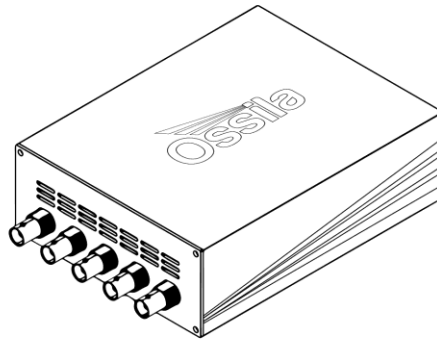
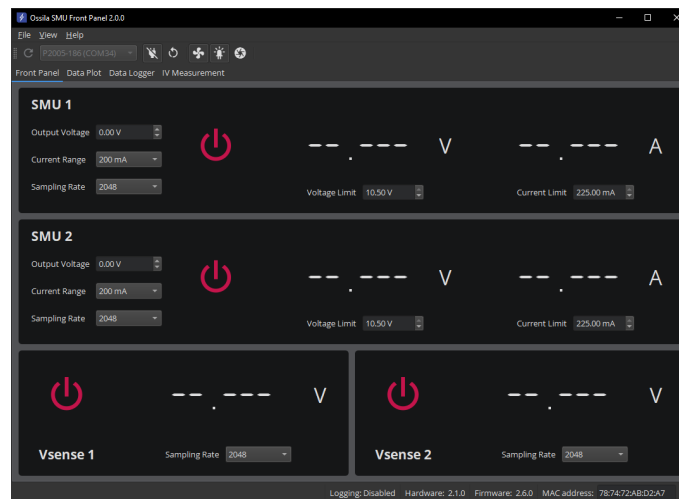

Figure 6.1. The Ossila Source Measure Unit.
Figure 6.2. The Ossila SMU Front Panel software.
The Ossila Source Measure Unit is comprised of the Ossila Source Measure Unit (Figure 6.1) and the Ossila SMU Front Panel Software (Figure 6.2).
1. Start the Ossila SMU Front Panel software and the window shown in **Figure 6.2** will open.